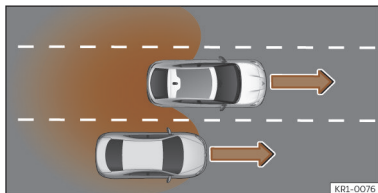

Fig. 132 Overtaking in the central lane and then joining the right lane.
- When overtaking another vehicle >>> **Fig. 132** with a speed difference of approx. 10 km/h (6 mph). If the vehicle is passing at a considerably higher speed, no indication will be displayed.